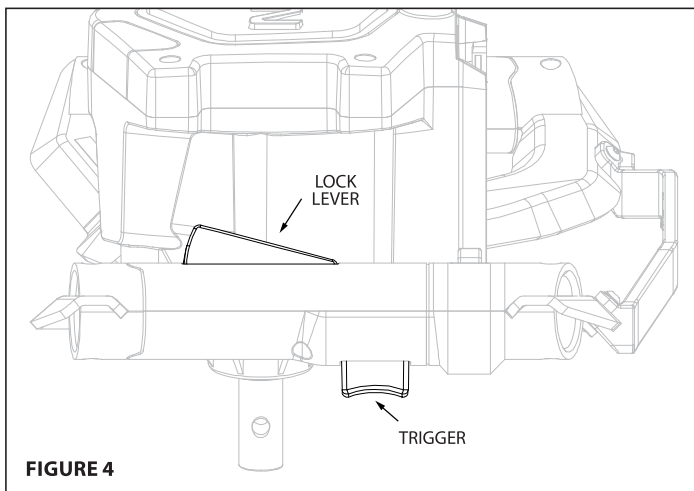

FIGURE 4
2. Depress the lock lever, then squeeze the trigger. Following a 1/2 second safety delay, the auger will then start drilling. **SEE FIGURE 4**